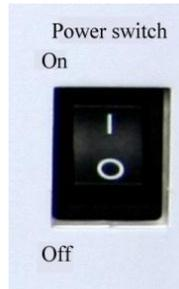

Fig. 3.2 Power Switch on Rear Panel of Series 3986
Step 1. Turn on the power switch of the rear panel, as shown in Fig. 3.2, and check if the standby indicator above the power switch of front panel lights up in yellow, which indicate that the instrument is in standby.